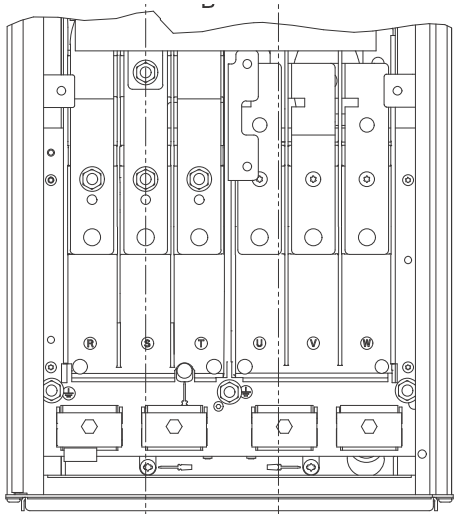

Fig. 31 Earth, mains and motor connection for D1h and D2h
1. Connect the earth conductor to terminal 95 (PE). See fig. 31.
Take the following terminal positions into consideration when you design the cable connection. See fig. 31.
1. Connect the earth conductor to terminal 99 (PE). See fig. 31.
2. Connect the motor conductors to terminals 96 (U), 97 (V), 98 (W).